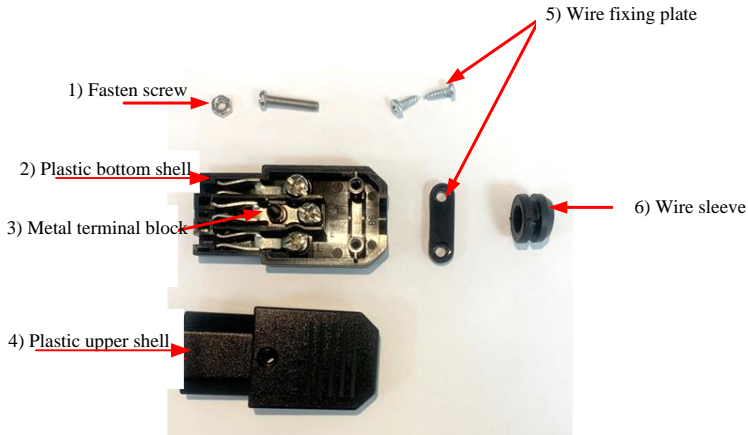

Figure 17
- 2) The disassembled plug is shown in the following Figure 17: